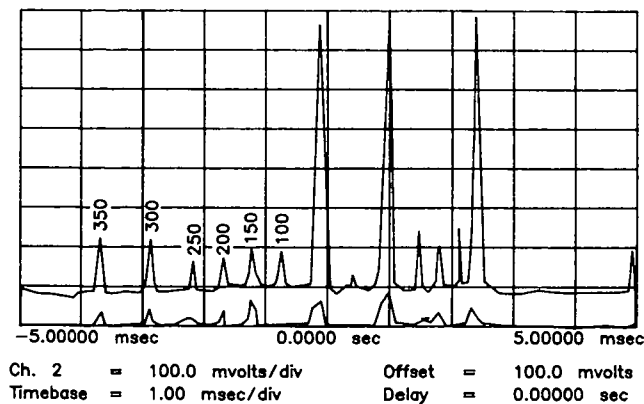

Figure 5-15b. Frequency Response of Notch Filters, 765 MHz Setting.
5. The oscilloscope display for nonadjusted Notch Filters is shown in Figure 5-15b.
6. Observe the oscilloscope Chan 2 display (beat notes) and refer to Figure 5-15b. Adjust A4L38 (100 MHz Notch Filter) until you see the 100 MHz beat note change on the display, then adjust the beat note for minimum amplitude.